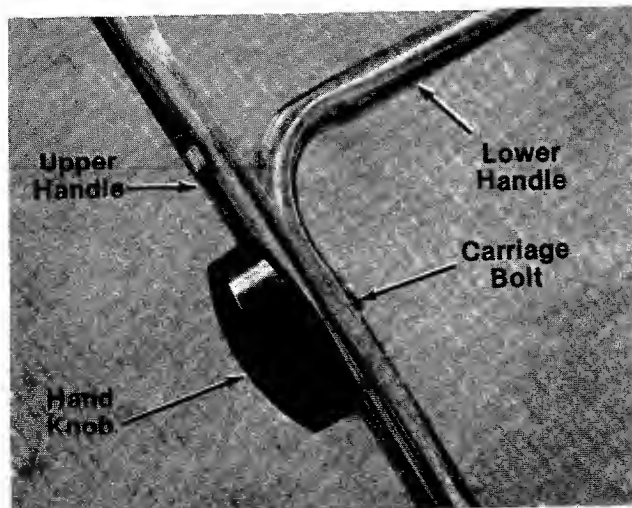

FIGURE 3.
Secure upper handle with two curved carriage bolts (A) and hand knobs (B) as shown in figure 3. The knobs may be assembled either to the inside or the outside of the handle.